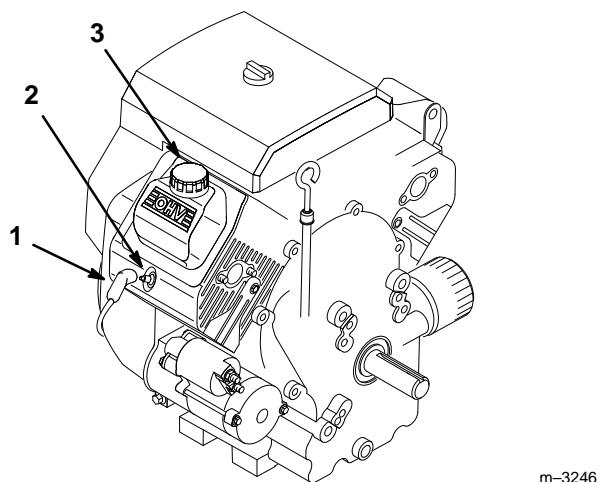

Figure 29
6. Slowly pour approximately 80% of the specified amount of oil into the oil filler tube (Fig. 29). Now check the oil level; refer to Checking the Engine Oil Level, page 11. Slowly add additional oil to bring the oil level to the FULL mark on the dipstick.
3. Pull the wire(s) off the spark plug(s) (Fig. 29). Now clean around the spark plug(s) to prevent dirt from falling into the engine and potentially causing damage.
3. Push the wires onto the spark plugs (Fig. 29).